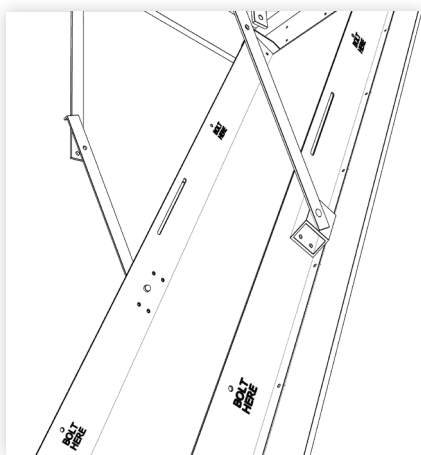

figure 12
14. There are 4x6mm holes in the base runners that are clearly marked "Bolt Here". Using a twist drill, drill through the marked holes and right through the stair stringers. Use the 6mm machine screws and nylok nuts supplied to fix through these holes. (figure 12)